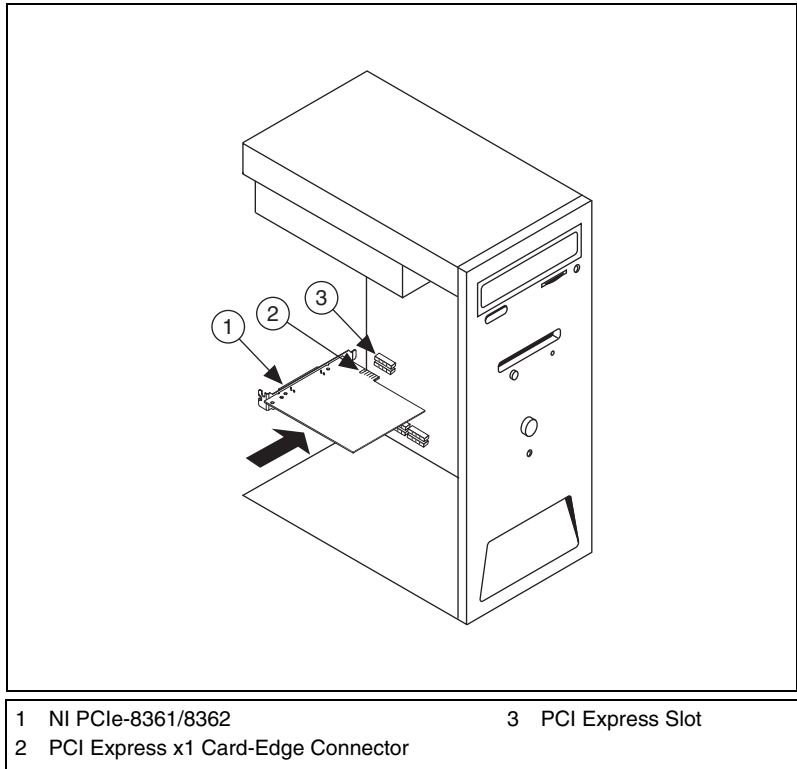

Figure 3-1. NI PCIe-8361/8362 Card Installation Example
7. Line up the NI PCI-8361 or NI PCIe-8361/8362 with the slot on the back panel, as shown in Figure 3-1. Slowly push down on the top of the NI PCI-8361 or NI PCIe-8361/8362 until its card-edge connector is resting on the expansion slot receptacle. Using slow, evenly distributed pressure, press the NI PCI-8361 or NI PCIe-8361/8362 straight down until it seats in the expansion slot.
Note Figure 3-1 shows a PCI Express based card installation. The same procedure applies for a PCI card and slot.